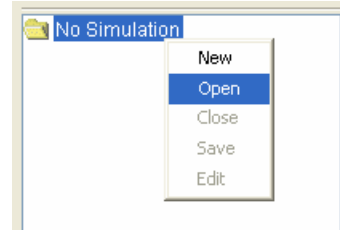

Figure 14.14 Simulation Control Panel Shortcut Menu: Open Simulation
1. From the **Simulation** menu, select **Open**. Or, in the **Control Panel**, right-click on the currently-active Simulation or *No Simulation* folder to access the shortcut menu (Figure 14.14). Select **Open**.